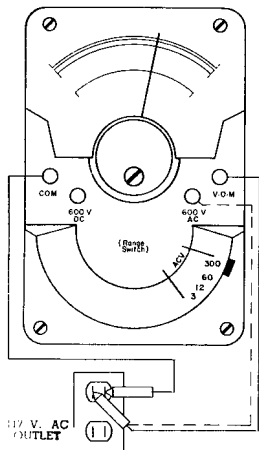

FIGURE 5. AC Voltage
**3.03** The AC voltage ranges are 0-3, 12, 60, 300 and 600 and are read as follows (see Figure 5):